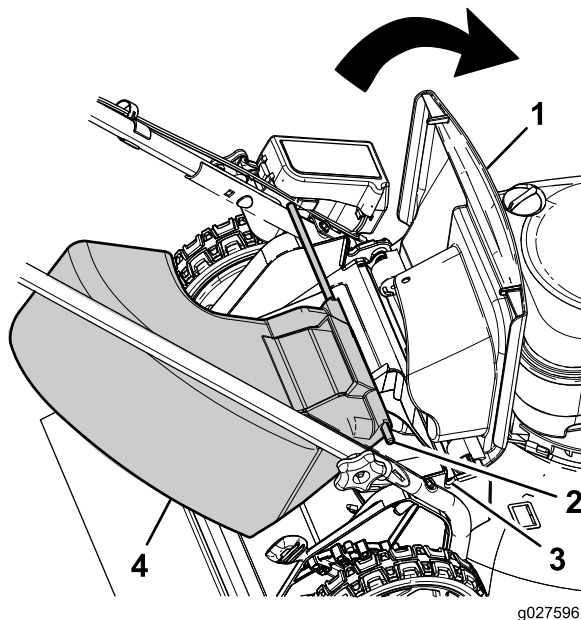

Figure 20
1. Lift up the rear deflector (Figure 20).
2. Insert the rod ends of the side-discharge chute into the notches on the handle brackets (Figure 20).